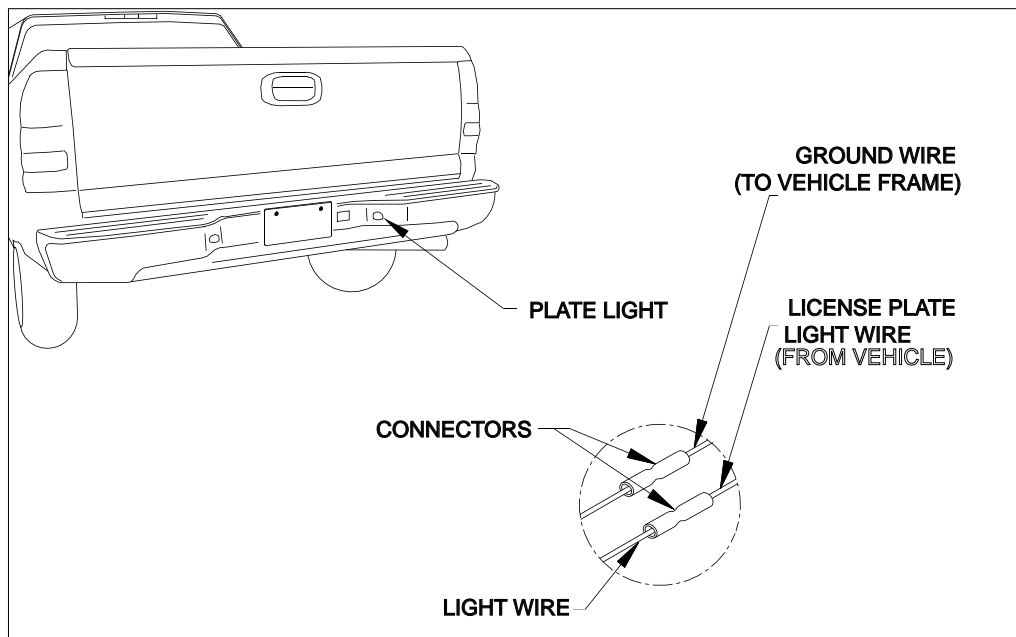

FIGURE 6
STEP 6: Install license plate lights into bumper (Figure 6). Using supplied connectors, splice license plate light wires into truck illumination wire as shown in Figure 6. Make sure license plate lights are working properly.